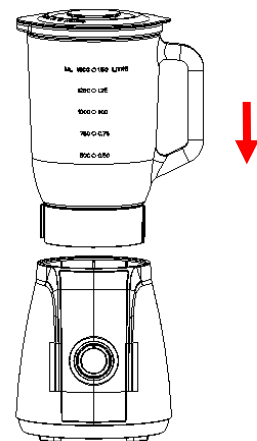

Fig.5
- 3.3 Finally, place the assembled jar onto the motor unit by aligning the strip on the assembled jar bottom. (See Fig.5)